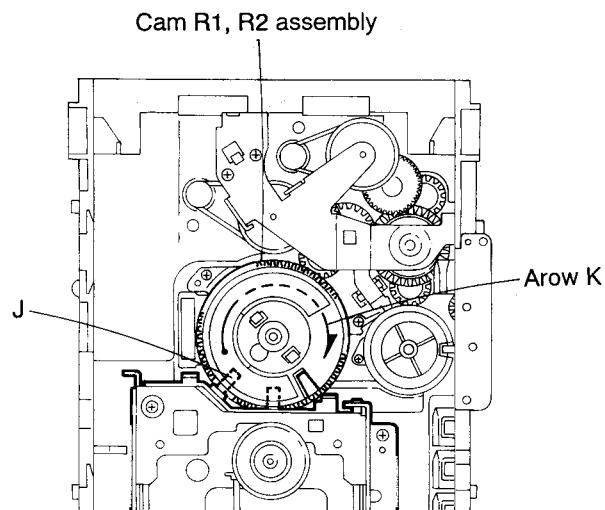

Fig. 5-26
■ Removing the CD mechanism (See Figs. 5-26 and 5-27)
1. For dismounting only the CD mechanism without removing the CD mechanism assembly, align the shaft (L) of the CD mechanism assembly to the position shown in Fig. 5-26 while turning the cam R1 and R2 assembly in the arrow direction (K).